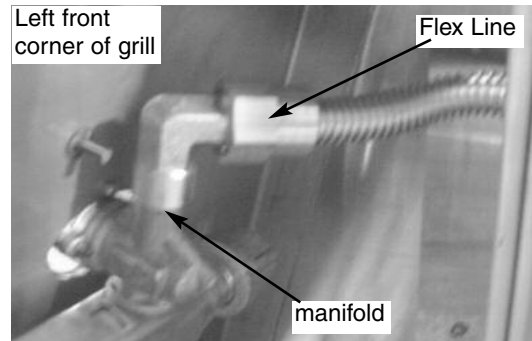

Fig 15
15. Disconnect the left flex line from the manifold using the adjustable wrench. This will free up the left side of the manifold. (See Fig. 15 & 16)